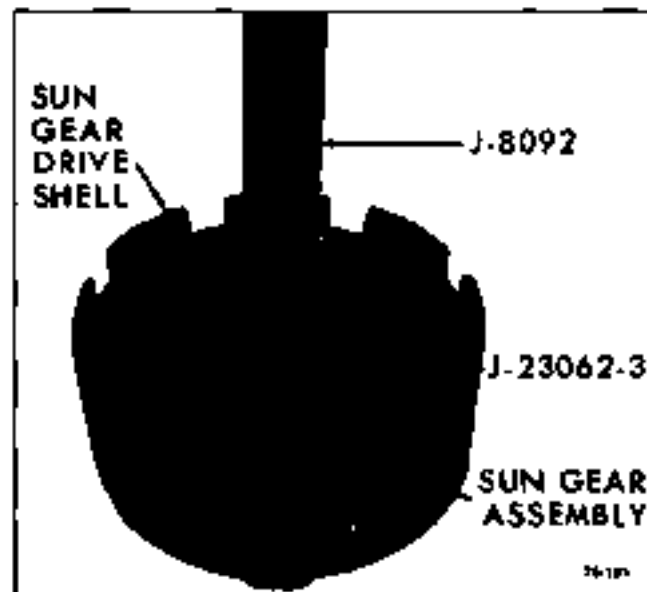

Fig. 7G-87 Installing Sun Gear Bushings
- Using Bushing Tool J 23062-3, Extension J 21465-13 and Drive Handle J-8092 and with sun gear properly supported, drive out bushings (2).
- Using Bushing Tool J 23062-3 and Drive Handle J 8092, install each new bushing flush to .010" below surface of each counterbore (Fig. 7G-87).